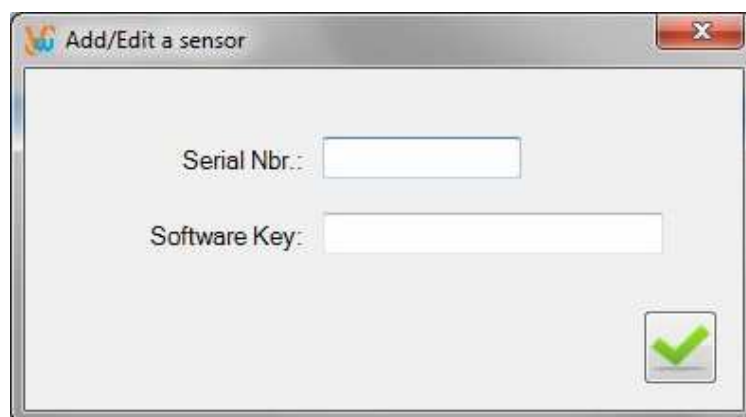

Figure 6: Adding a sensor
- Click on the  button to add a sensor. A new window is displayed (Figure 6) allowing you to insert the data relating to the sensor.